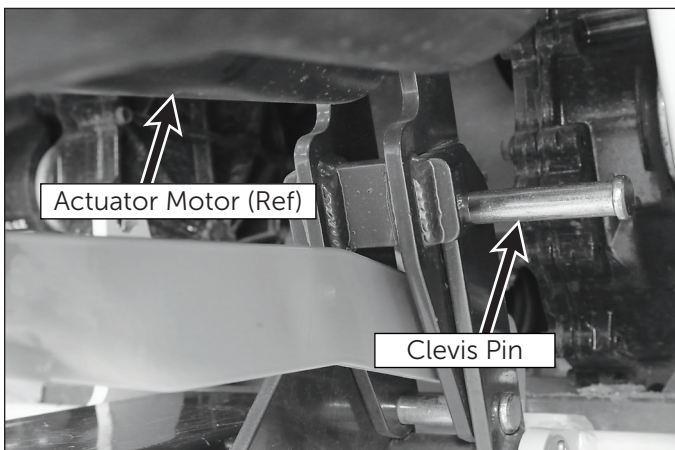

Figure 2.9: Non-Float Setting With Clevis Pin Installed
- **Non-Floating:** Insert the clevis pin (Figure 2.9) through the rear actuator mount and secure with the bowtie cotter pin. Install the clevis pin to allow for downward pressure on the implement.